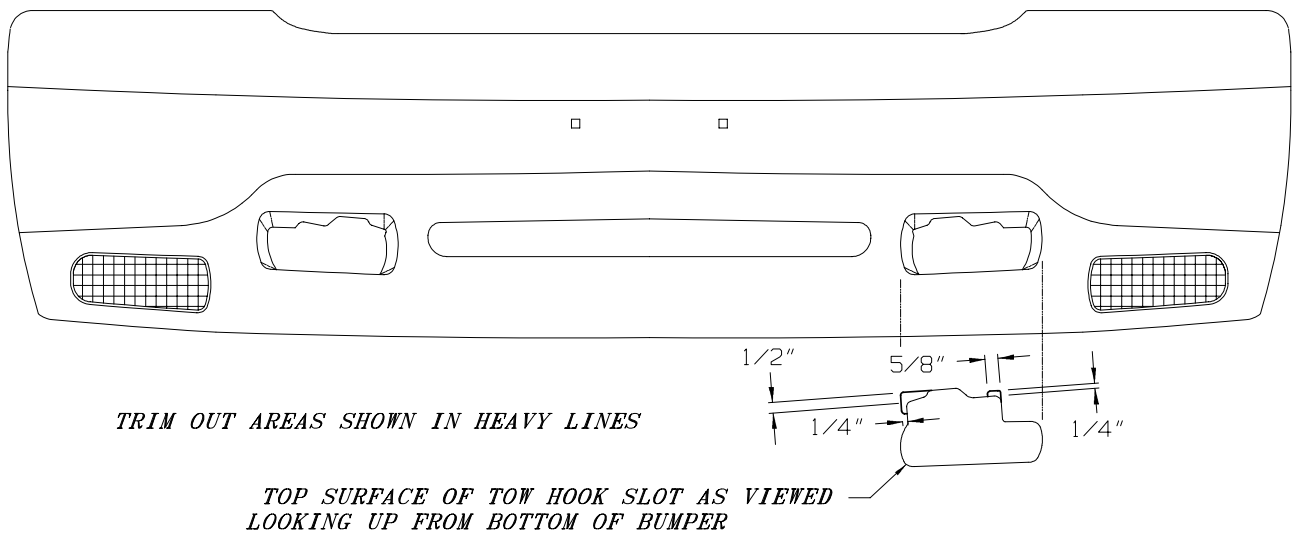

FIGURE 3
6. With the bumper on the floor or a bench, trim the lower plastic piece as shown in **Figure 3**. The plastic is easy to cut with a small sharp knife or saw.